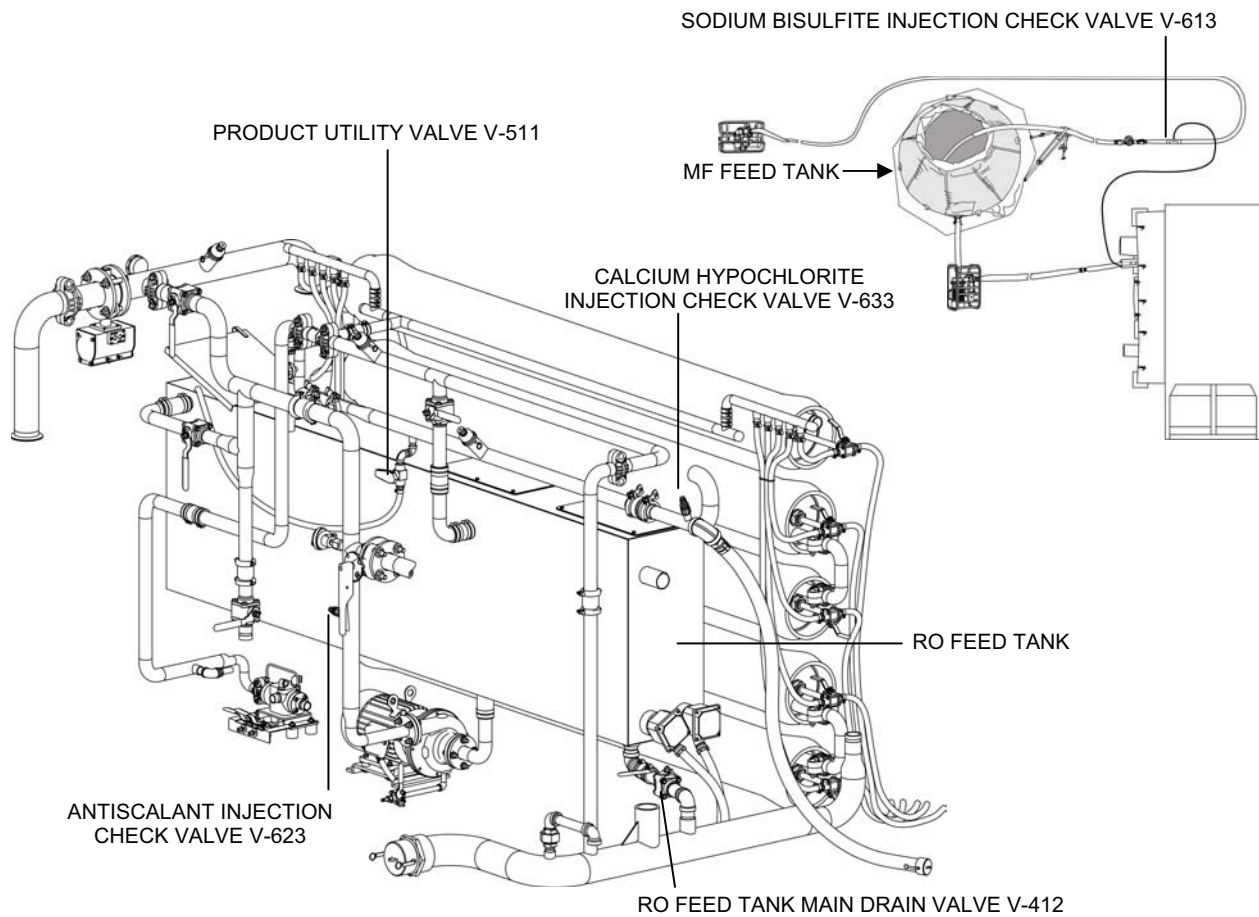

Figure 5. Injection Check Valve Locations.
Replace an injection check valve assembly as follows (see Figure 5 for the location of the three injection check valves):
2. When replacing Antiscalant Injection Check Valve V-623, open RO Feed Tank Main Drain Valve V-412 and drain the RO tank (see Figure 5 for valve V-412 location).
3. When replacing Calcium Hypochlorite Injection Check Valve V-633, open Product Utility Valve V-511 and drain the product line (see Figure 5 for valve V-511 location).